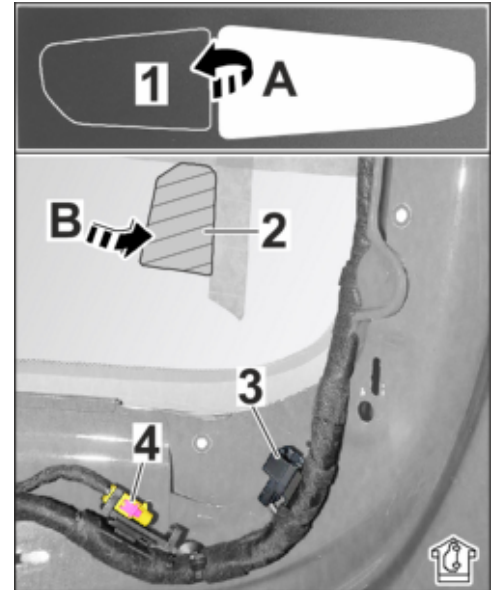

Figure 16 (example 9YA)
3.2.2 Peel backing sheet off 3M privacy film (rear camera). ⇒ *Figure 16 (example 9YA) -A-*
3.2.3 Position and affix 3M privacy film on marked bonding surface on inner rear window. ⇒ *Figure 16 (example 9YA) -B-*